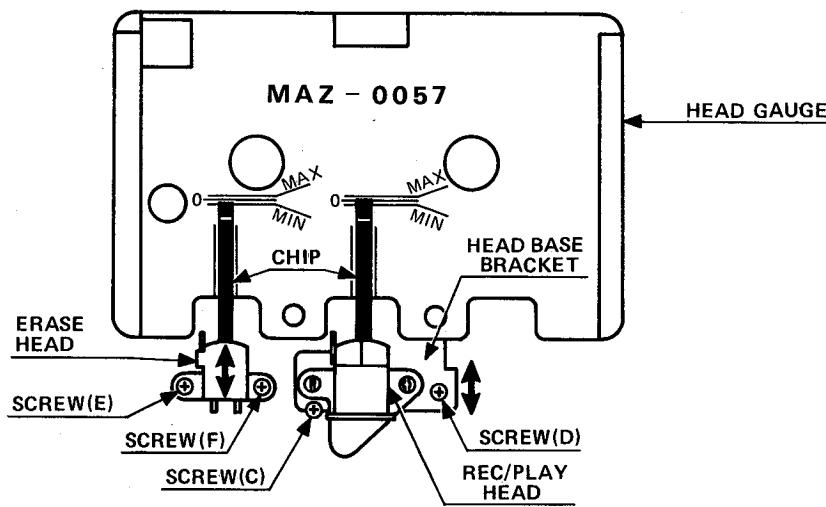

Fig. 2
3. Set the unit at auto search position and adjust the head base bracket so as the top end of the adjustment chip (MAZ-0181(B)) comes to between 0 and MAX on the head gauge as shown in Fig. 2 by loosening and refastening the screws (C) and (D).
4. Depress playback button and adjust the head by shifting the shaded part of head slider to the directions as shown in Fig. 3 so as the top end of the attached adjustment chip comes to between MINI and 0 on the head gauge as shown in Fig. 2.
3. Depress playback button and set the head to the position where the attached adjustment chip comes to between MIN and 0 on the head gauge as shown in Fig. 2 by adjusting with screws (E) and (F).